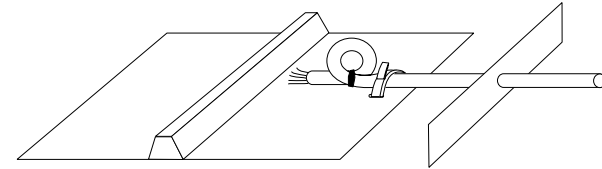

Figure 3. Installing the 52X-TS Cable
4. Place the cable through the end plate and under the cable tie installed on the board. Make a small loop in the cable using the cable ties provided, to hold the loop in place. Tighten both cable ties. Figure 3 below shows the correct connection.